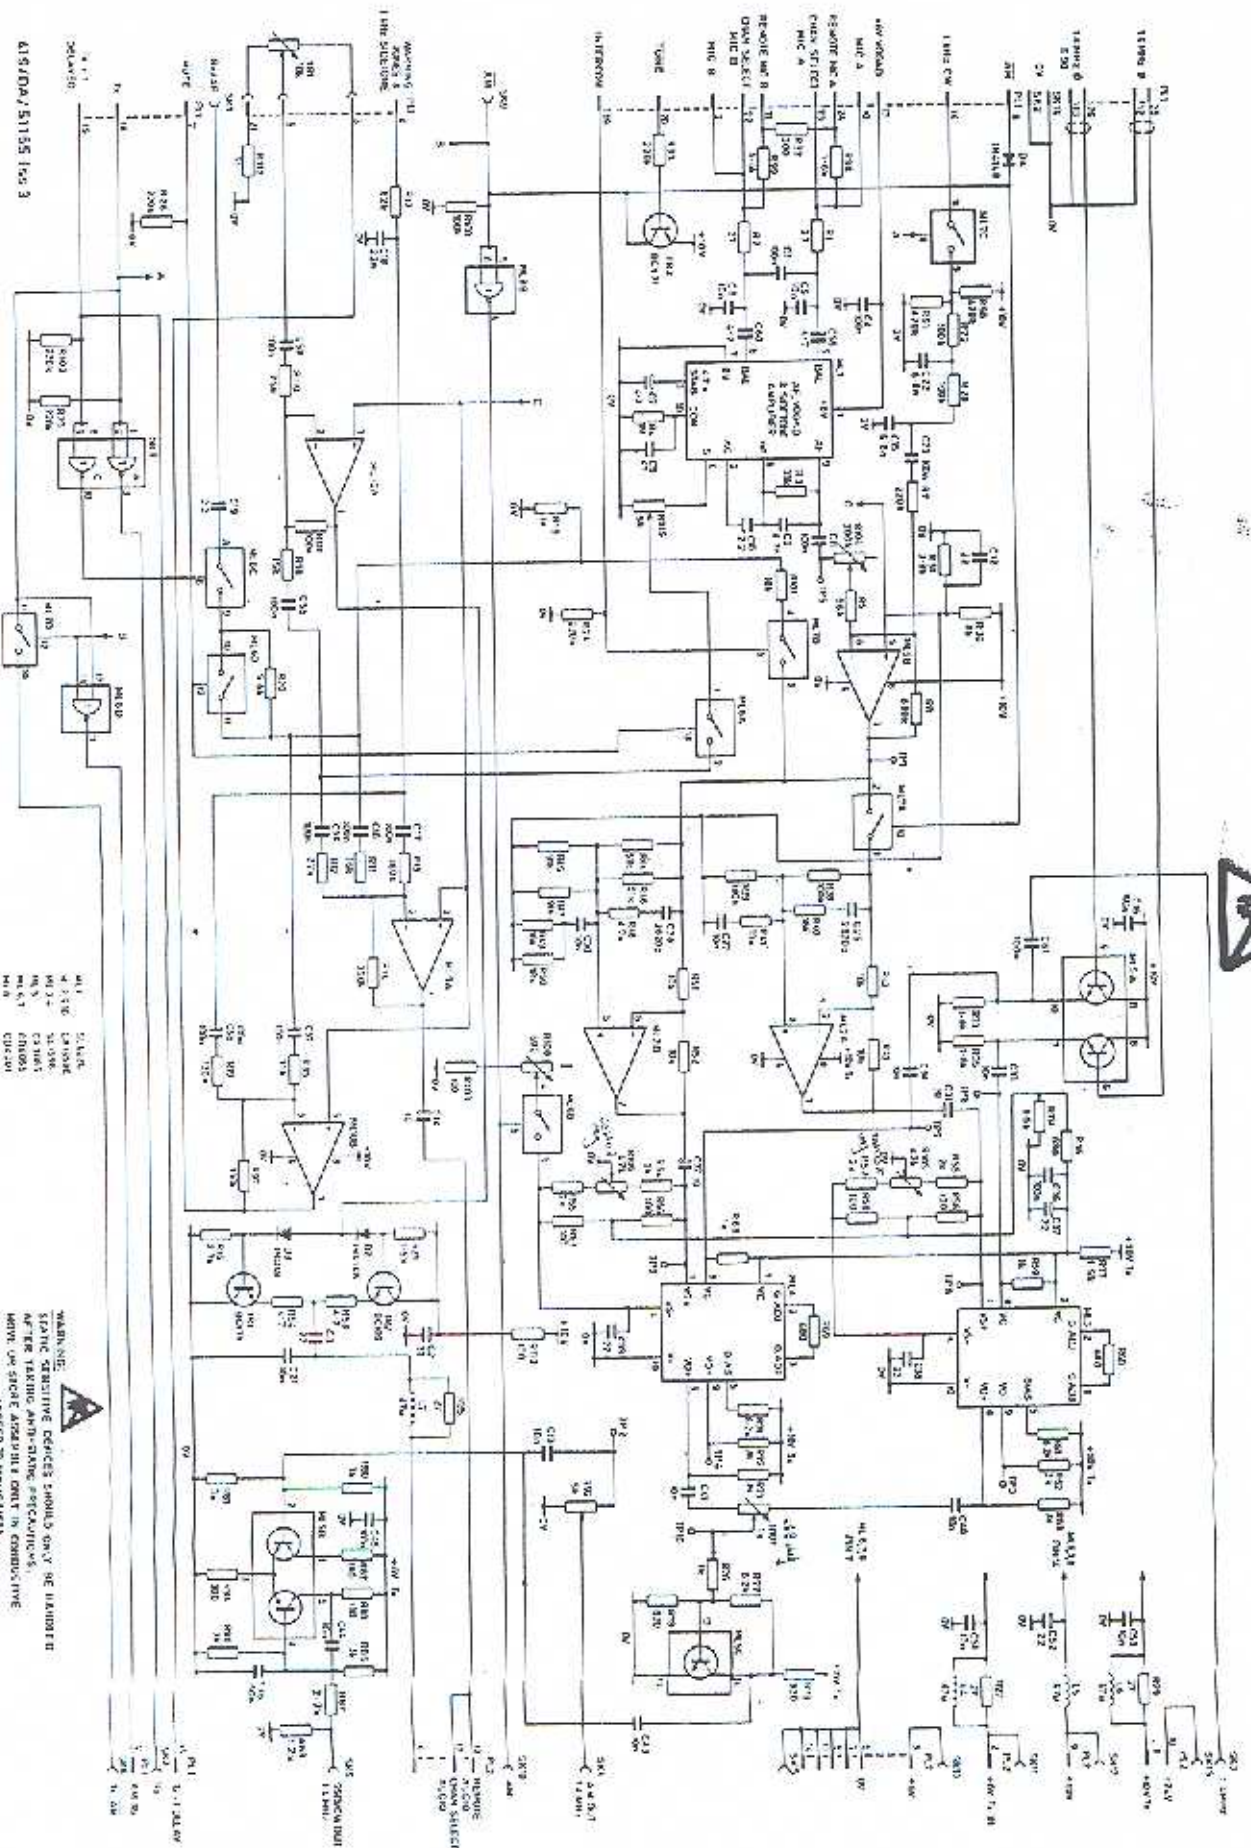

Fig 1
2. A circuit diagram of the Remote Control Board is given in Fig.1.